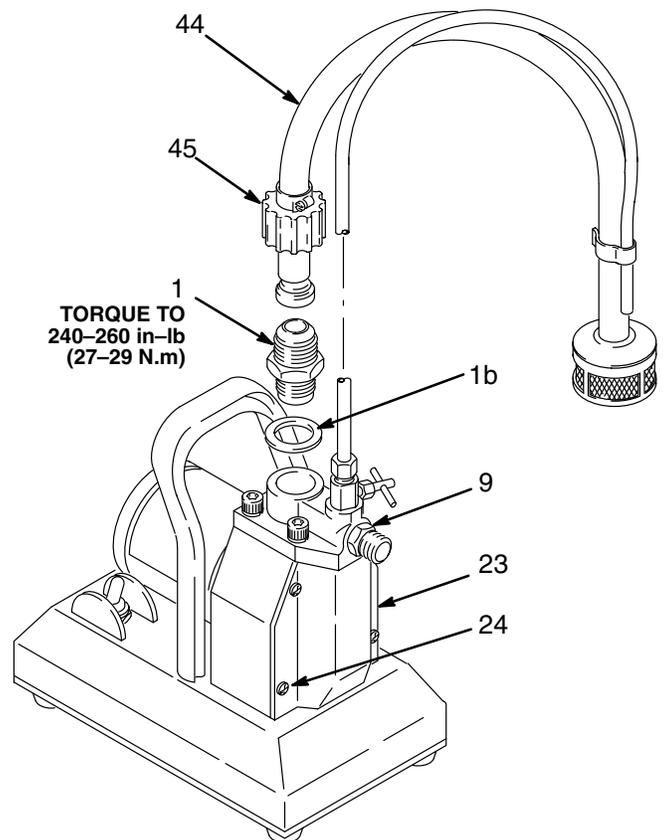

Fig 13
2. Remove the front cover (23). See Fig 13.
5. Slide the retainer (14) over the pressure switch and screw the retainer into the pump housing. Torque the retainer to 55–65 in-lb (6.2–7.4 N.m). See Fig 13.
Inlet Valve (See Fig 13.)